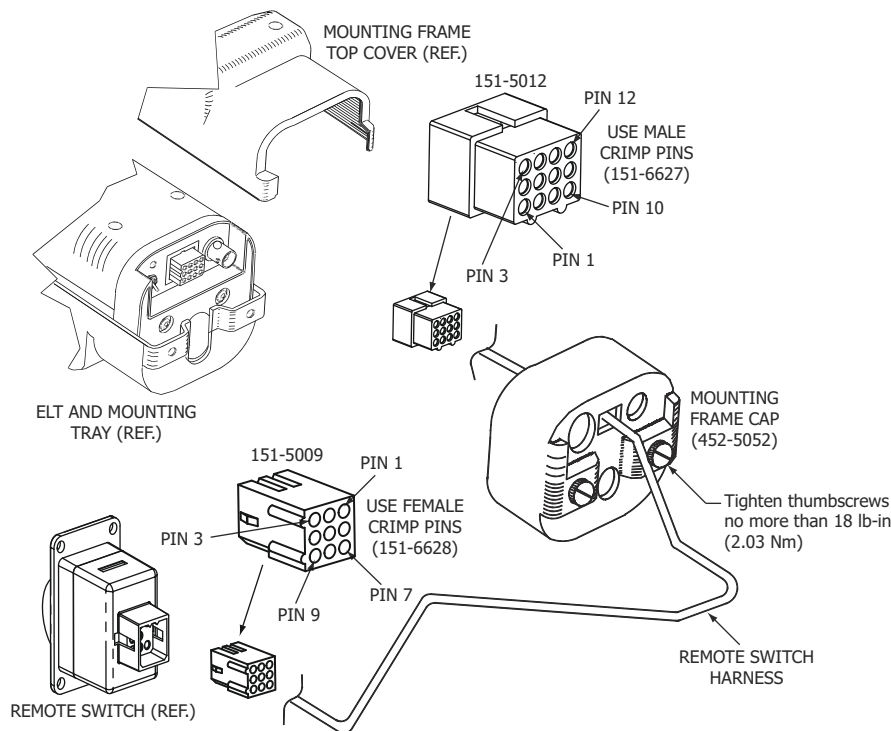

Figure 20. Remote Switch Harness Arrangement
- (1) See "Figure 20. Remote Switch Harness Arrangement".